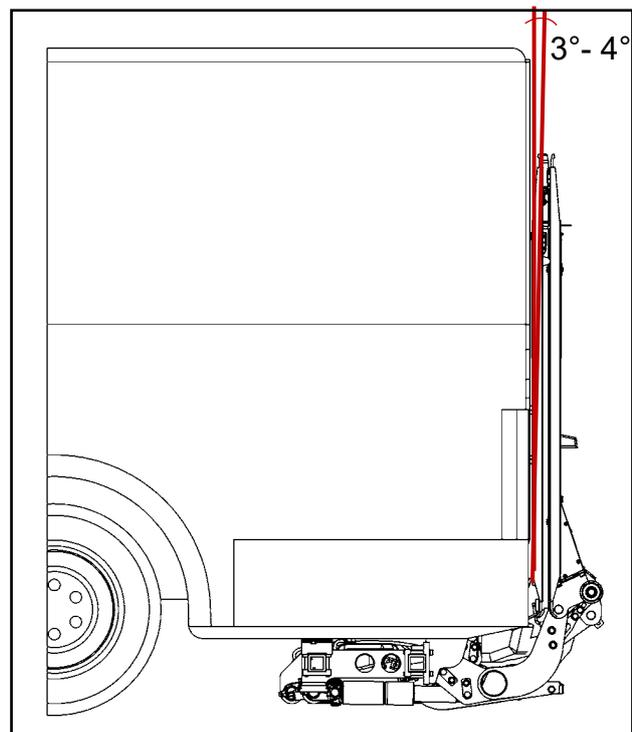

Figure 79
- Hydraulically close the platform until it is close to vertical, leaving it 3° to 4° open (see Fig. 79).